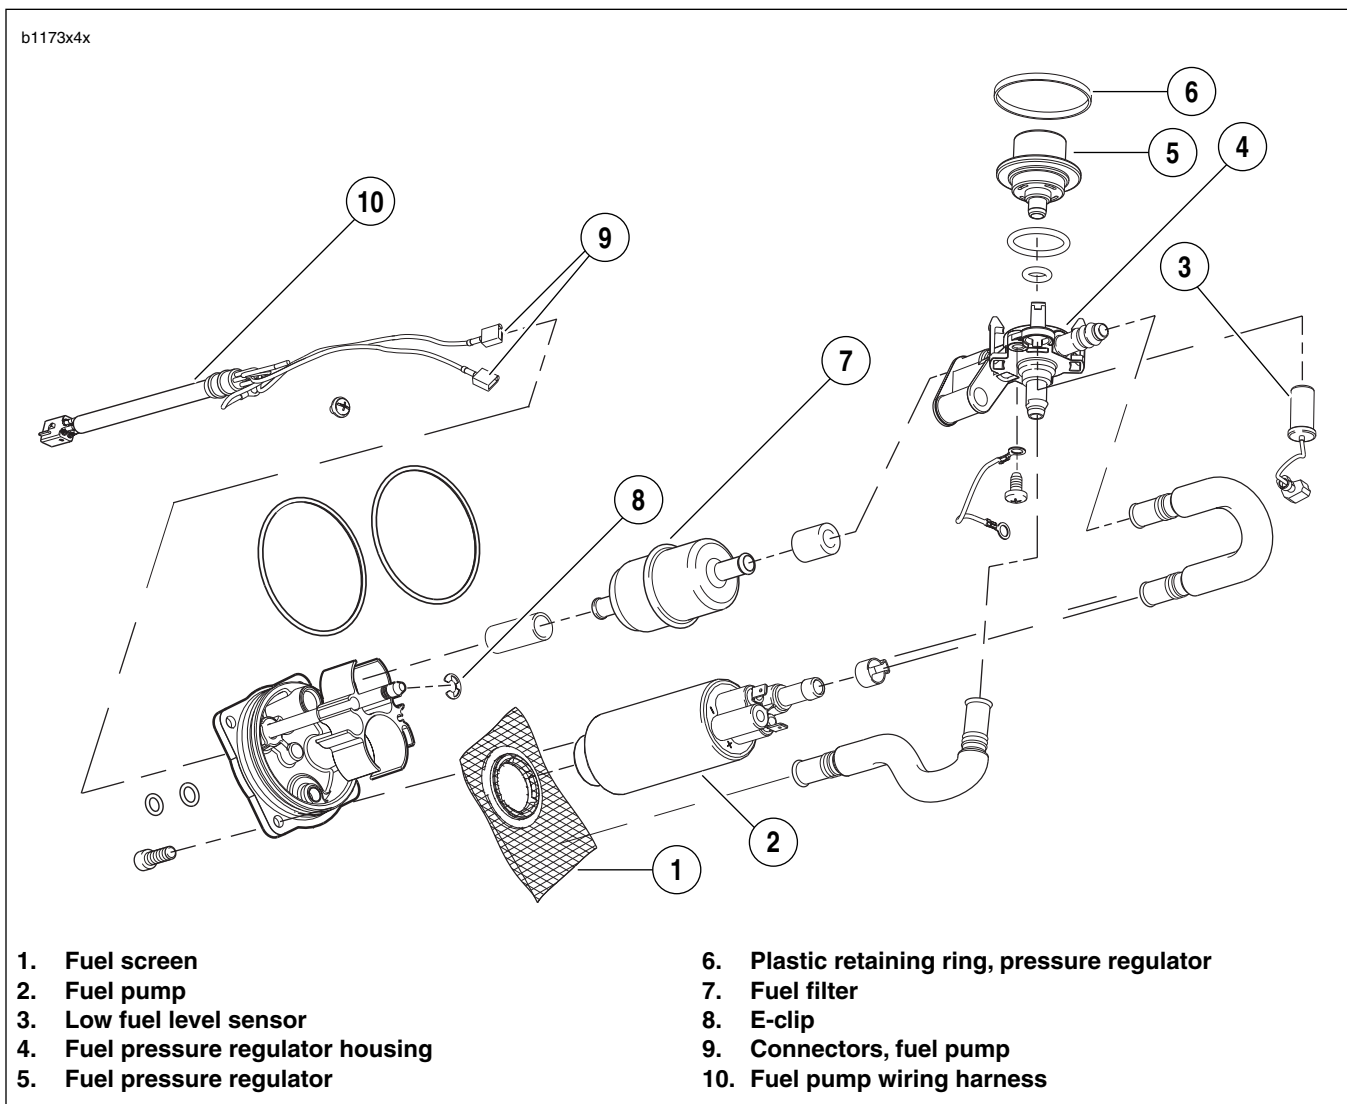

Figure 4-90. Fuel Pump Assembly
3. Remove ground fastener (12) from the fuel pump and fuel filter bracket (9).
4. Remove fuel pressure regulator E-clip (7).
5. Pull regulator housing (3) and fuel pump (8) with bracket (9) as an assembly.
6. See Figure 4-90. Pry fuel screen (1) from fuel pump (2).
8. Install regulator housing assembly (4, 5) and fuel pump (2).
9. Install E-clip (8) in bottom groove on shaft.